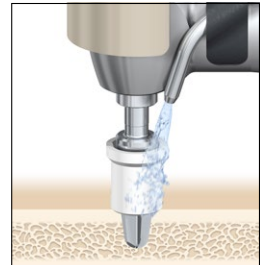

Fig.14: Guide drill with spacer
3. **Set the drill unit to 2000 rpm with coolant. Use the drill indicator and abundant irrigation during all drilling procedures.** Begin drilling with the conical guide drill with the 3 mm spacer at 2000 rpm (*Fig.14*).